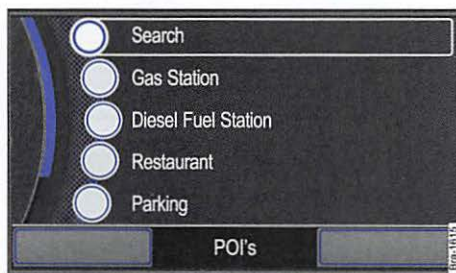

Fig. 50 Select point of interest category.
Opens the list of available point of interest categories ⇒ fig. 50.
- Press the topmost **[Search]** function button in the list of available point of interest categories ⇒ fig. 50.